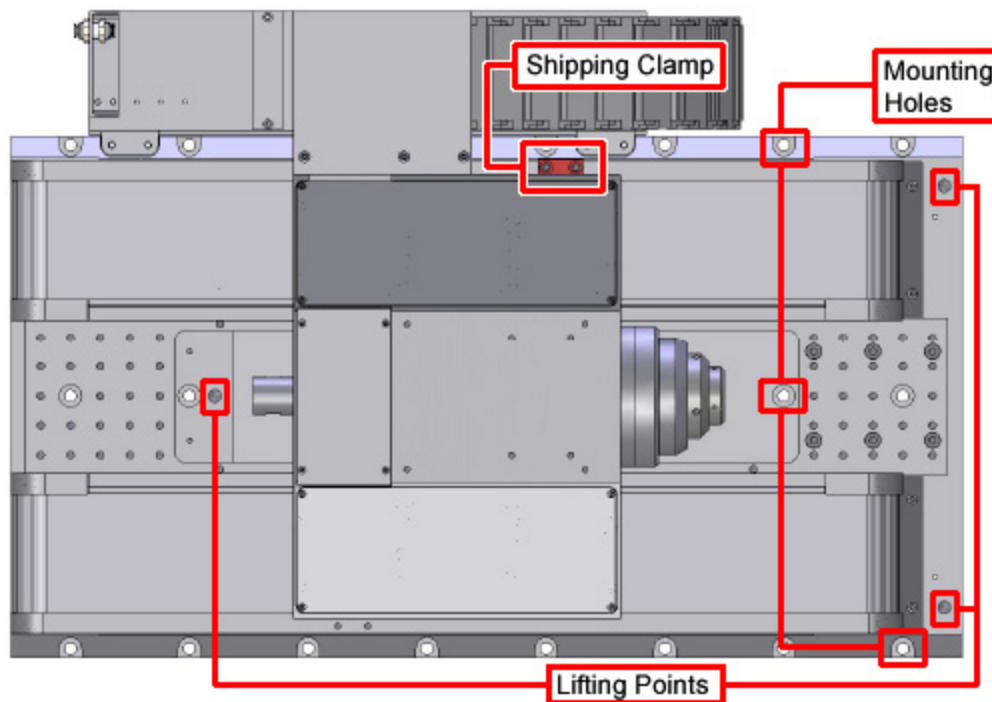
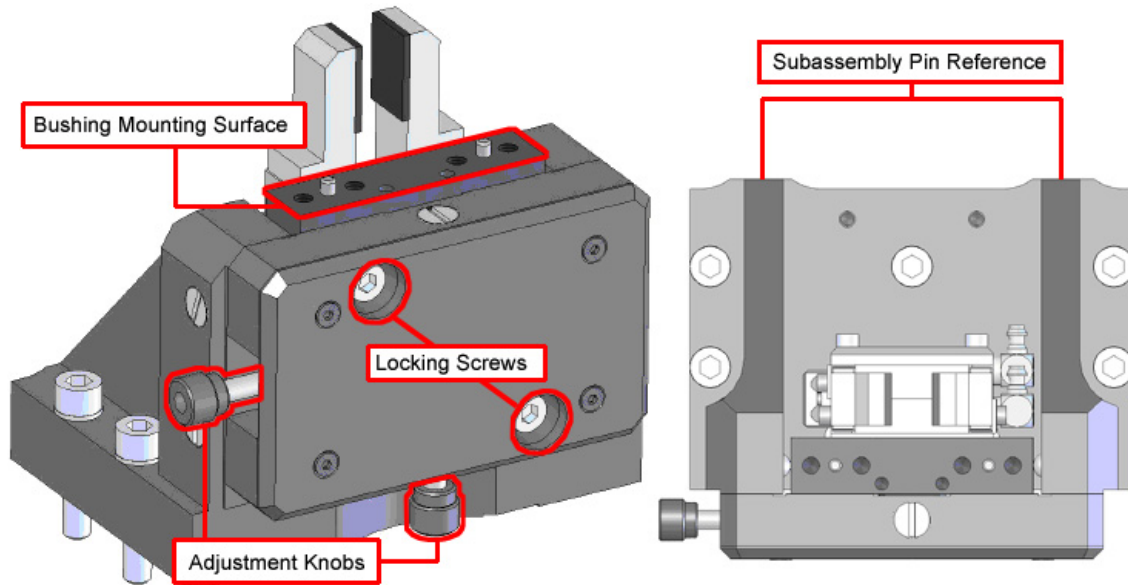

Figure 2-1: VascuLathe®-ASR Stage Showing Mounting Holes (Top View)
Figure 2-4: Alignment Gripper Detail
Lift the stage only by the base at (Qty-3) 1/2-13 tapped holes (see Figure 2-1). Do not use the stage table or motor as lifting points.
If necessary, move the stage carriage to access the base plate mounting holes along the edges of the stage (refer to Figure 2-1). Install the appropriately sized mounting screws (M8 or 5/16 SHCS) through the holes and secure the stage to the mounting surface.
Step 1: Place the provided (Qty-2) 6 mm pins in bushing inserts of the base plate. Refer to Figure 2-4 and Figure 2-1. Use the two bushings that are in the middle of the front mounting platform so that tube waste is minimized.
Step 6: Loosen (Qty-2) M5 socket head (locking screws) shown in Figure 2-4 so that the alignment mechanism can be adjusted.